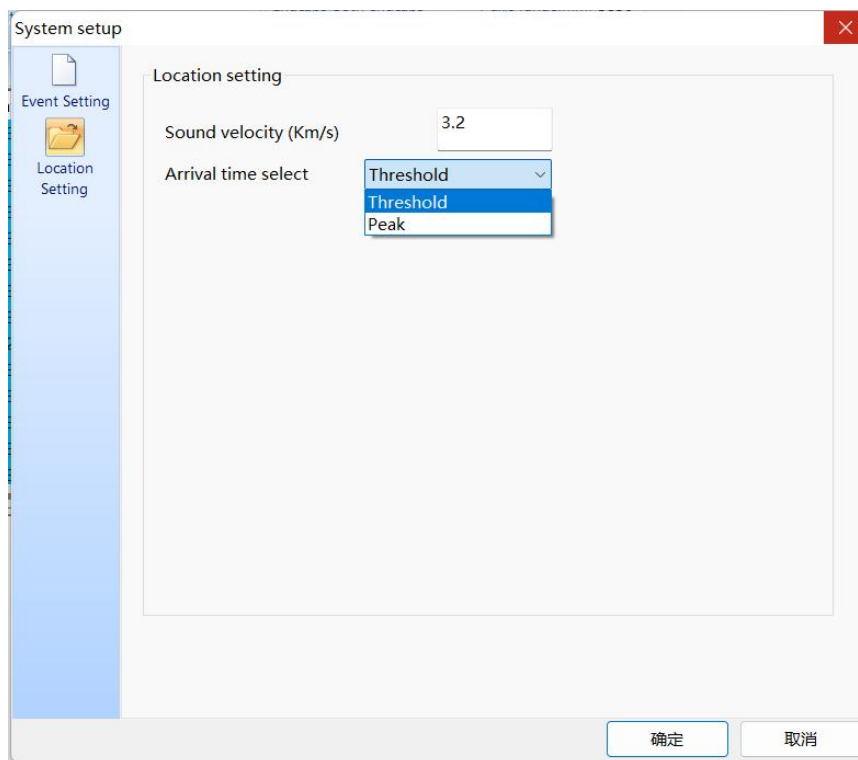

Fig. 6-78 Location settings
After selecting any location view, click **[Locate Settings]** to open the “System Setup” interface. Click the **[Location Setting]** button on the left to display the interface shown in Figure 6-78. This interface involves the sound velocity setting and arrival time selection.
- d. Click the [**Save**] button, and then input this calibrated sound velocity to the “Sound Velocity” column in Figure 6-78 interface.